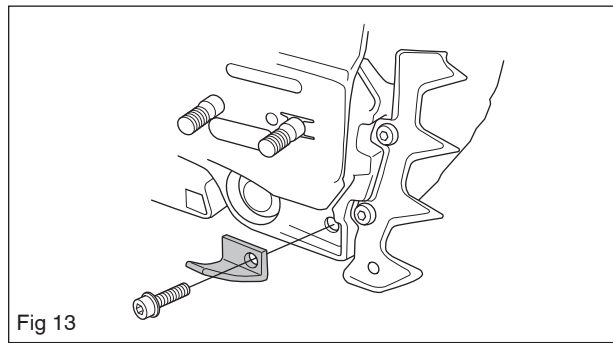

Fig 13
4. Make sure that the vibration element is fitted correctly on the crankcase when a new chain catcher is screwed in place. See figure 13.